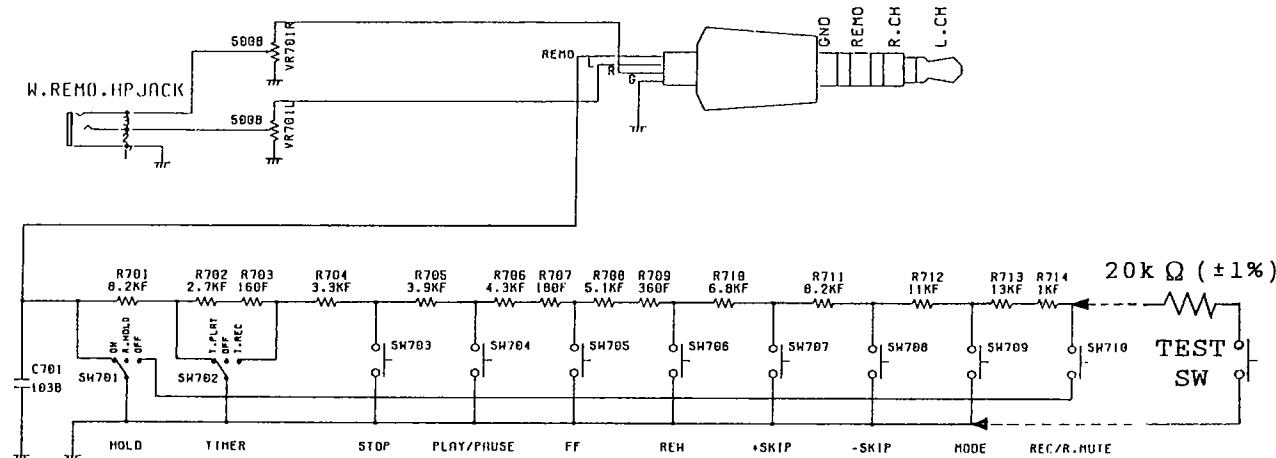

Fig.11 Test-Remoto-Control circuit
1. Make the Test-Remoto-Control by adding a resistor($20K\Omega \pm 1\%$) and a tact switch to remoto control circuit. (See Fig. 11)